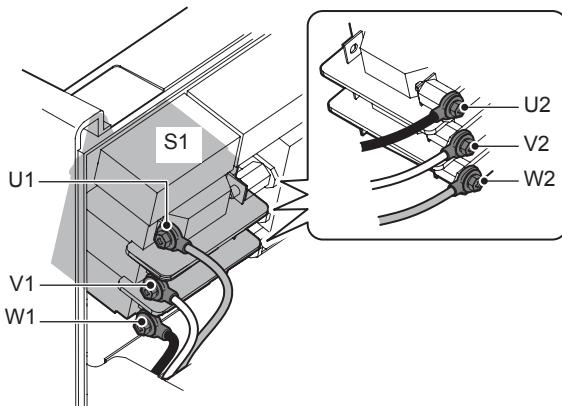

Figure 6-7: Check points U1, U2, V1, V2, W1 and W2
- 1) Verify input voltage (Phase-to Phase) using an AC voltmeter. (The capability of the voltmeter should be more than 600VAC). Measure the point between lines U1 and V1 on the input switch, S1. Measure the point between lines U1 and W1 on the input switch, S1. Measure the point between lines V1 and W1 on the input switch, S1. The location of points U1, V1 and W1 on switch S1 are indicated in Figure 6-7. When using a single-phase connection, the voltage can be verified only between U1 and V1.
The location of points U2, V2 and W2 on switch S1 are indicated in Figure 6-7. When using a single-phase connection, the voltage can be verified only between U2 and V2.